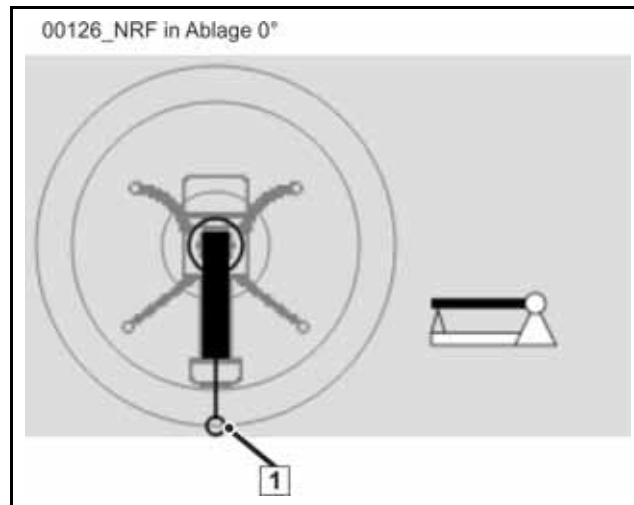

Fig. 458 Normal folding system in tray
In the figure (**Fig. 458**), the end hose is illustrated by the symbol (1).